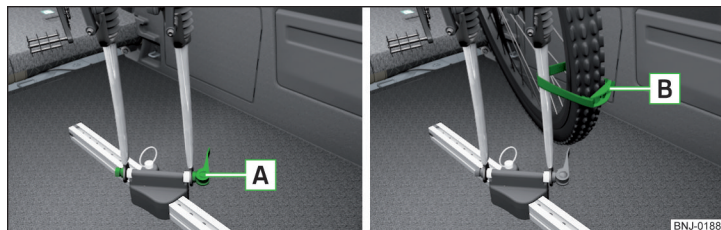

Fig. 108 Insert the front fork of the bicycle into the carrier / mounting example of the front wheel
- Release the quick release **A** » Fig. 108 on the carrier and adjust according to the bicycle fork width.
- Attach the front wheel with belt **B** to the front fork » Fig. 108 or to the bicycle frame.